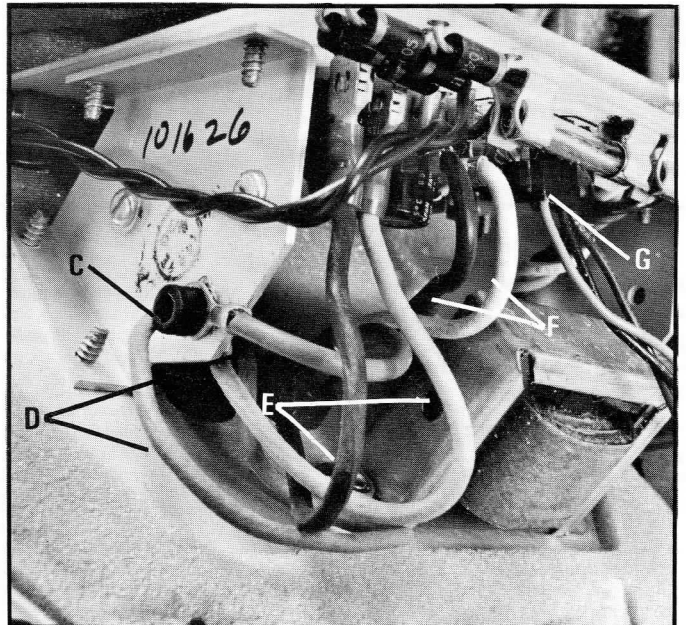

Fig. 37
4. Remove grounding screw (C) Fig. 37, and disconnect two ground leads (D).
5. Disconnect two motor leads (E) Fig. 37. **NOTE:** Always replace black and white motor leads (E) as shown in Fig. 37.
6. Disconnect two power leads (F) Fig. 37.
7. Disconnect speed sensor leads (G) Fig. 37.